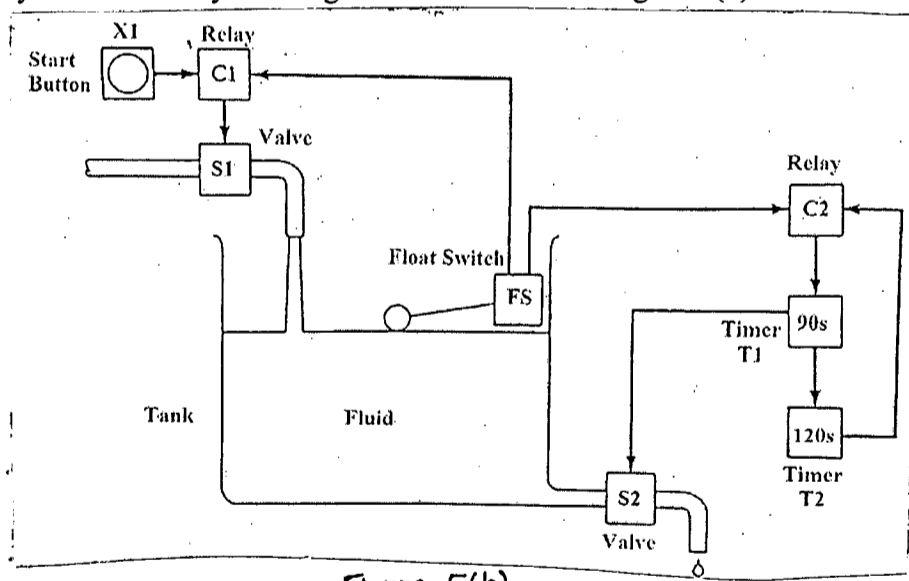

Figure 5(b)
(b) Consider the fluid storage tank illustrated in Figure 5(b). When the start button X1 is depressed, this energizes the control relay C1. In turn this energizes solenoid S1, which opens a valve allowing fluid to flow into the tank. When the tank becomes full, the float switch FS closes, which opens relay C1, causing the solenoid S1 to be de-energized, thus turning off the in-flow. Switch FS also activates a second relay C2 which energize timer T1 to provide a 90 sec delay for a certain chemical reaction to occur in the tank. At the end of the delay time, the timer energizes two devices: (1) It energizes solenoid S2, which opens a valve to allow the fluid to flow out of the tank; and (2) it initiates timer T2, which waits 120 sec to allow the contents of the tank to be drained. At the end of the 120 sec, the timer breaks the current by deactivating relay C2 and de-energizes solenoid S2, thus closing the outflow valve. **(20)**
- (ii) Suppose, for safety stock, the system requires additional in-flow of fluid for 60 sec after float switch FS is closed. What change do you propose in the existing system? Present your solution by drawing modified version of Figure 5(b).